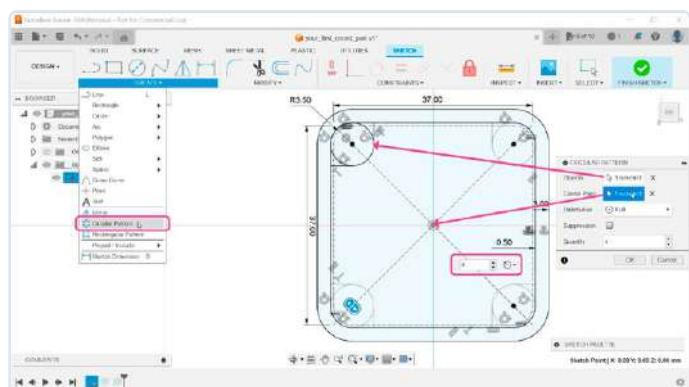

Figure 11: Replicating the support for the other three corners.
11) Three more supports are needed, but instead of drawing those manually, we can use some tools to duplicate the current support. An obvious choice might be the *Mirror* tool (*CREATE* → *Mirror*). However, a one-click solution, in this case, is the *Circular Pattern* tool, also located in the *CREATE* menu. With the tool active, we need to select the circle and two lines (**Figure 11**). Click the *Select* button next to the center point, and select the origin point. For *Quantity*, enter a value of 4.